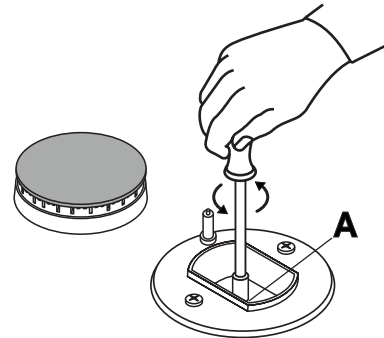

fig.9
- Unscrew the nozzles "A" (fig.9), using a 7 mm socket wrench and replace them, according to the table 1 "burners and nozzles specifications", with ones suitable for the new type of gas.